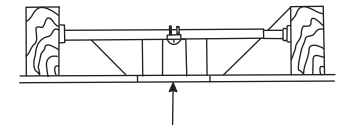

Fig. 4
**NOTE:** Depending on the location you have selected for installation, you may need to purchase and install a "Joist Hanger" for the support of the outlet box. Make sure the joist hanger you purchase has been designed for use with ceiling fans. **(Fig. 4)**